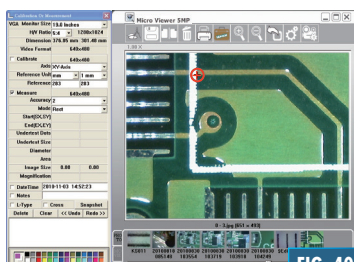

FIG. 40
4. Click and hold the right button of the mouse at corner of the object (**Fig. 40**).